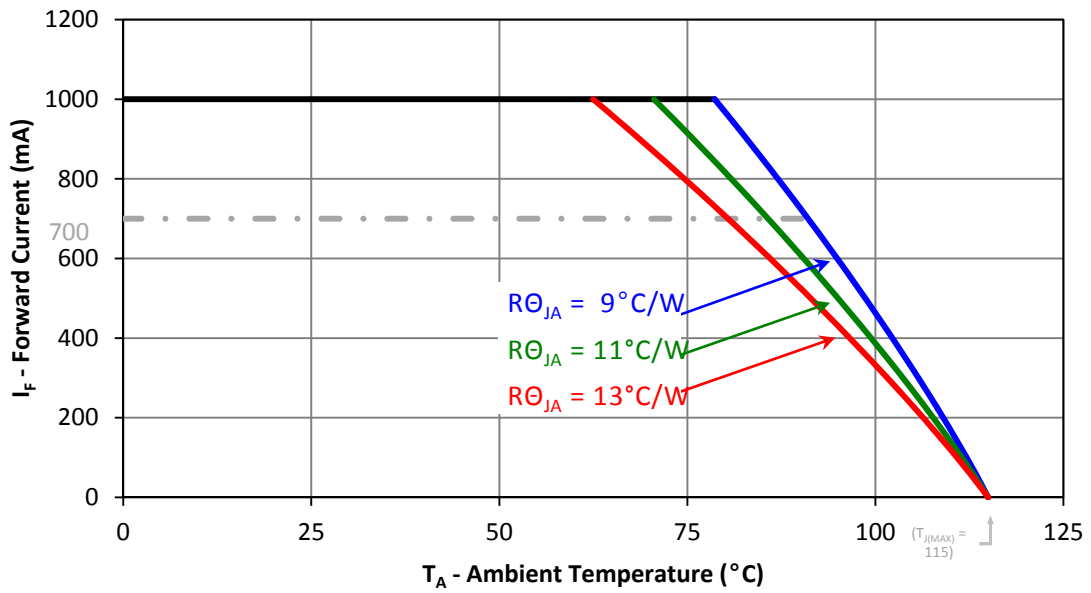

Figure 11: Maximum forward current vs. ambient temperature based on $T_{j(MAX)} = 115^\circ\text{C}$
- Maximum DC forward current is determined by the overall thermal resistance and ambient temperature. Follow the curves in Figure 11 for current derating.
Notes for Figure 11: